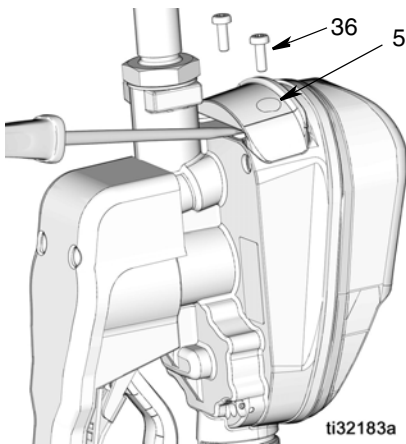

FIG. 34
1. Remove screws (36) from the battery compartment cover (5).
2. Use a small, flat screwdriver to gently pry the cover away from the metered dispense valve housing on the bottom side of the cover, near the extension attachment as shown in FIG. 34.